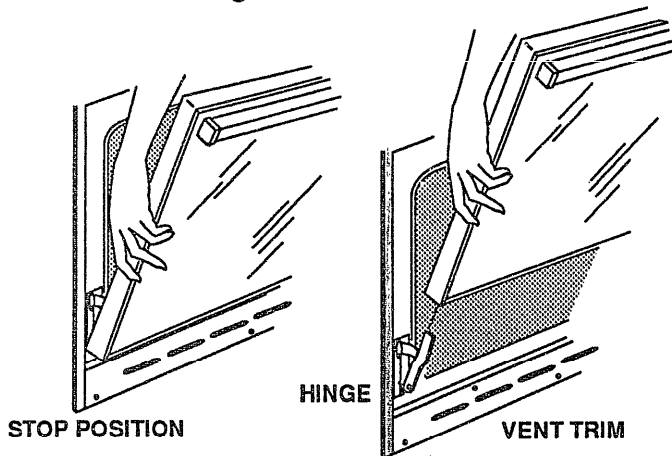

Fig. 5
- Open the door to the stop position (See Fig. 5.)